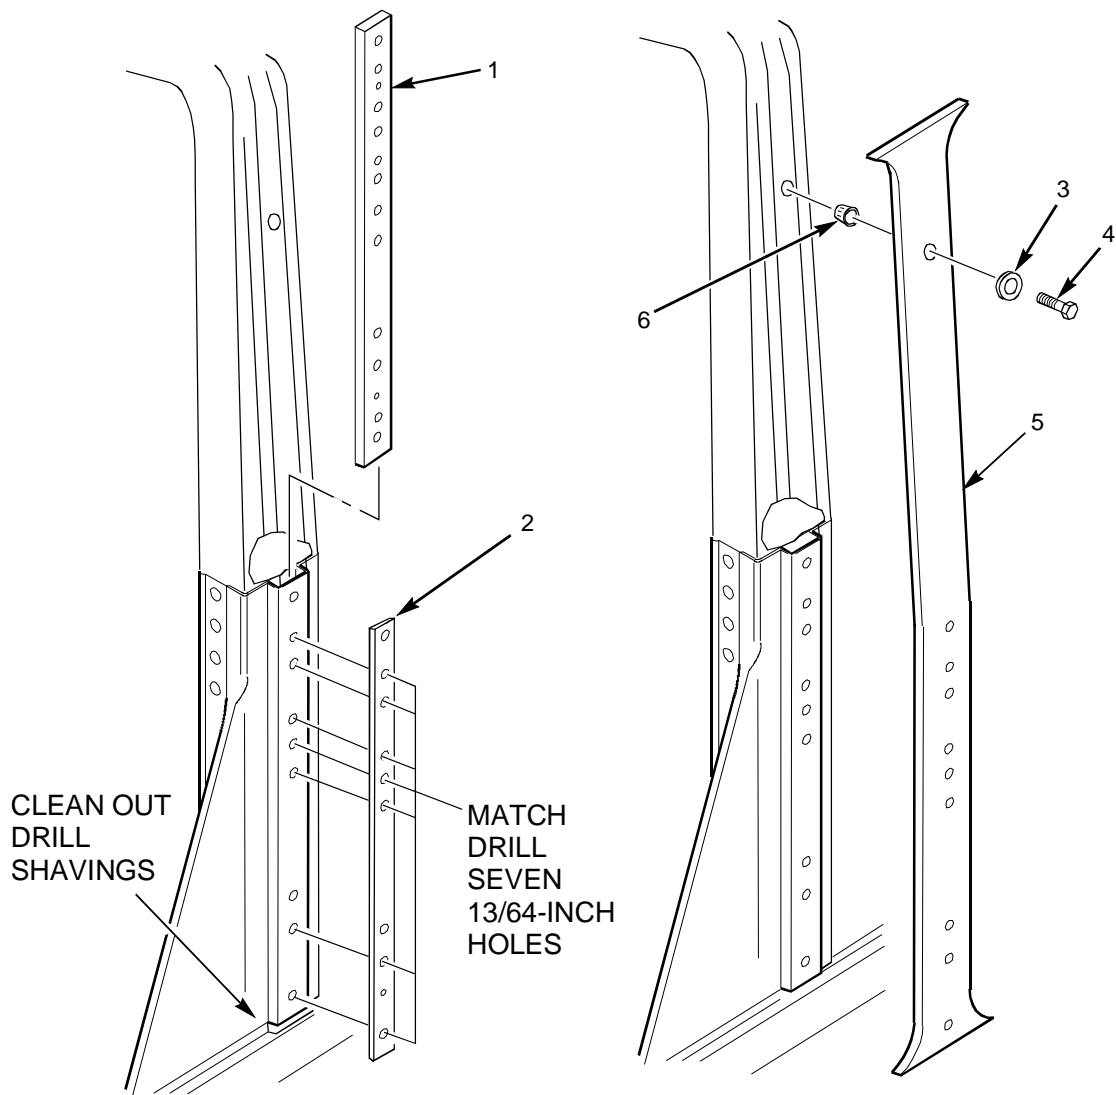

Figure 1-5. B-Pillar Armor Pre-installation Fit (2 and 4 Door)
- 1) Install B-pillar armor as follows (see figure 1-5).
- a. Position B-pillar cover strip (2) onto lower B-pillar aligning with two 3/8-drill bits in upper holes. Clamp B-pillar cover strip (2) in place.
- b. Match drill seven 13/64-inch holes in lower B-pillar using B-pillar cover strip (2) as a guide. Remove clamp and drill bits and retain B-pillar cover strip (2).
- c. Clean out drill shavings from behind hat section in B-pillar (see figure 1-5 for cleanout location).